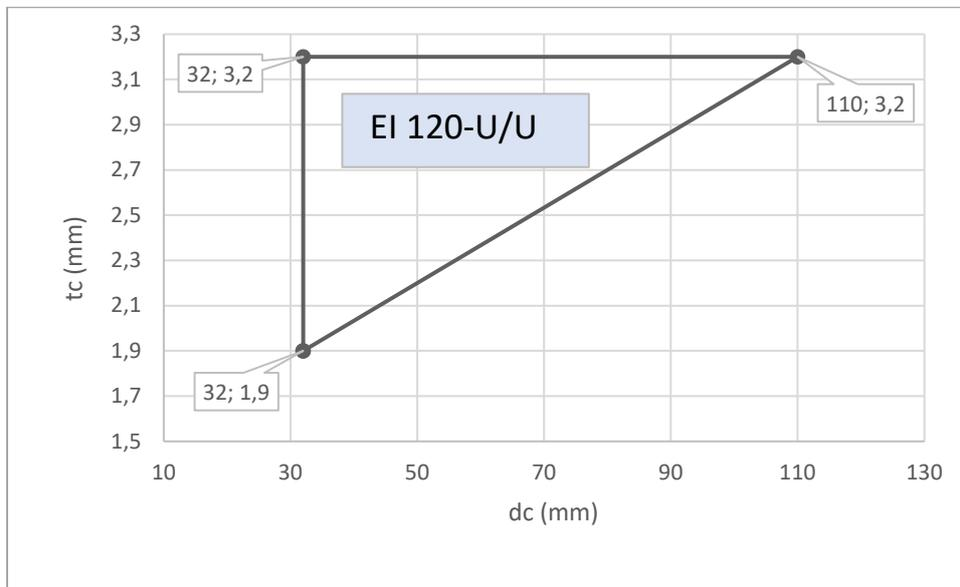

Figure 51: Classified pipe range of PVC-pipes in DG 1 with 87°-elbow
- For dimension refer to Figure 51